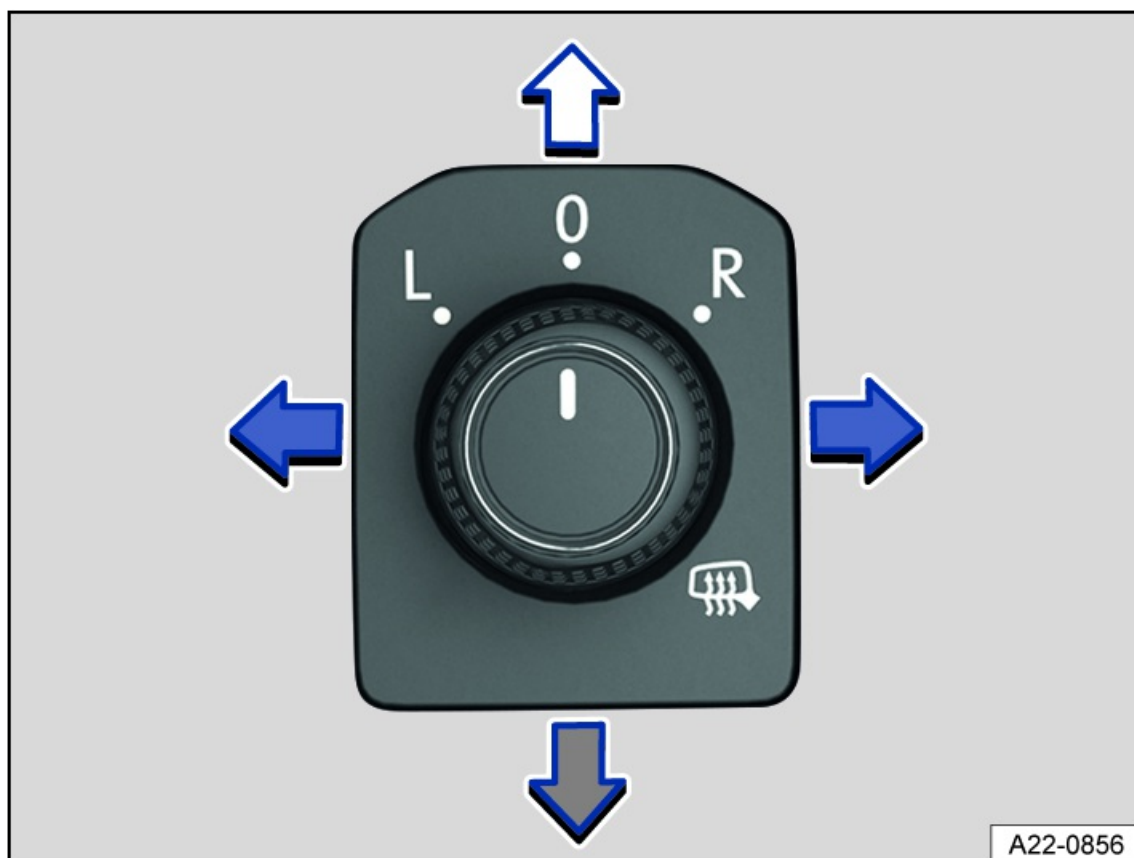

Fig. 87 In the driver door: knob for the outside mirrors.
2. Turn the knob in the driver door to the preferred symbol fig. 87.